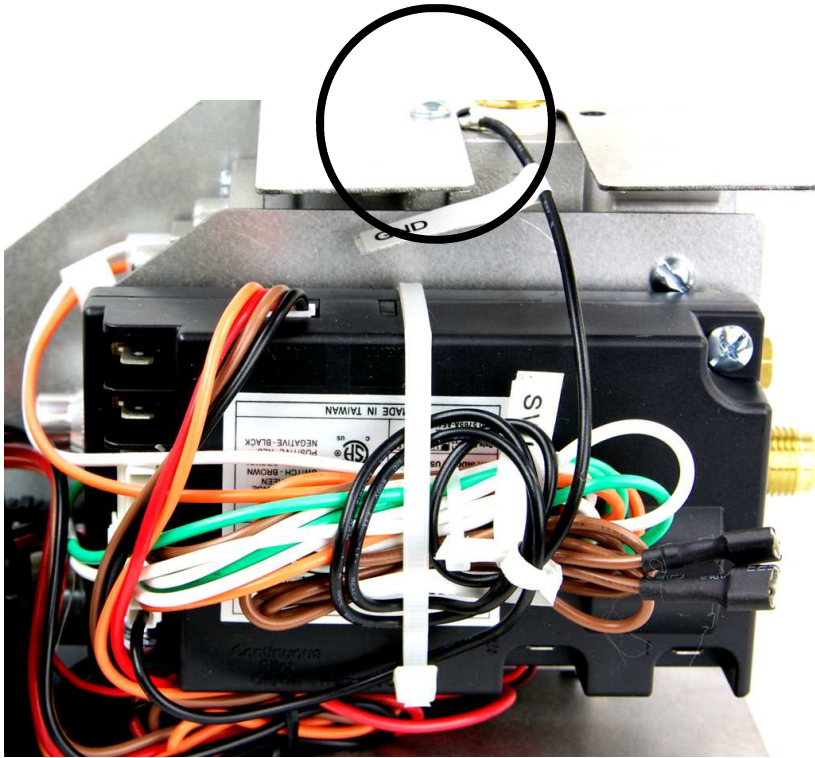

Figure 28
- 1) The Ground Wire is factory assembled at the top of the valve and chassis (Figure 28)